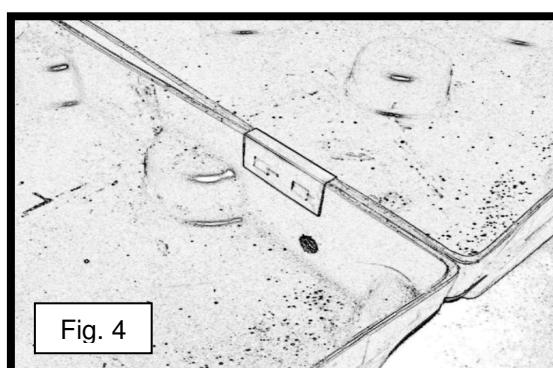

Fig. 4
- 4) Make sure that the clip is all the way down and flush with the top edge of the accumulation centers (see fig. 4).